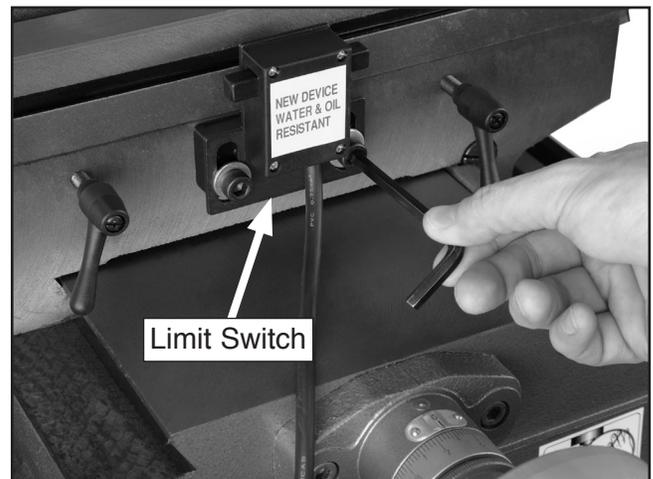

Figure 15. Limit switch.
10. Mount the switch to the switch bracket with the cap screws provided. When the switch is depressed, the power feed automatically turns **OFF** and table movement stops (**Figure 15**).